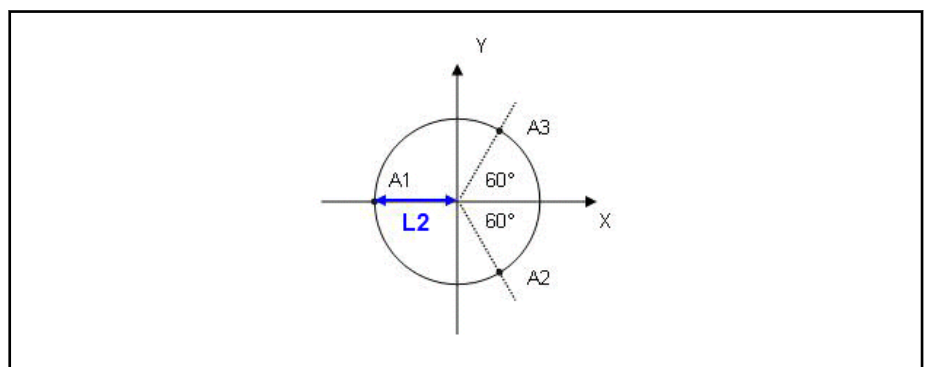

Fig. 4-25: Radius L2 of the motor base and the coordinate system (X-Y view)
- The Cartesian zero point for the delta linear robot is at the center point of the perimeter defined by the three guide rails in zero position (see also fig. 4-25 "Radius L_3 of the motor base and the coordinate system (X-Y view)" on page 135)